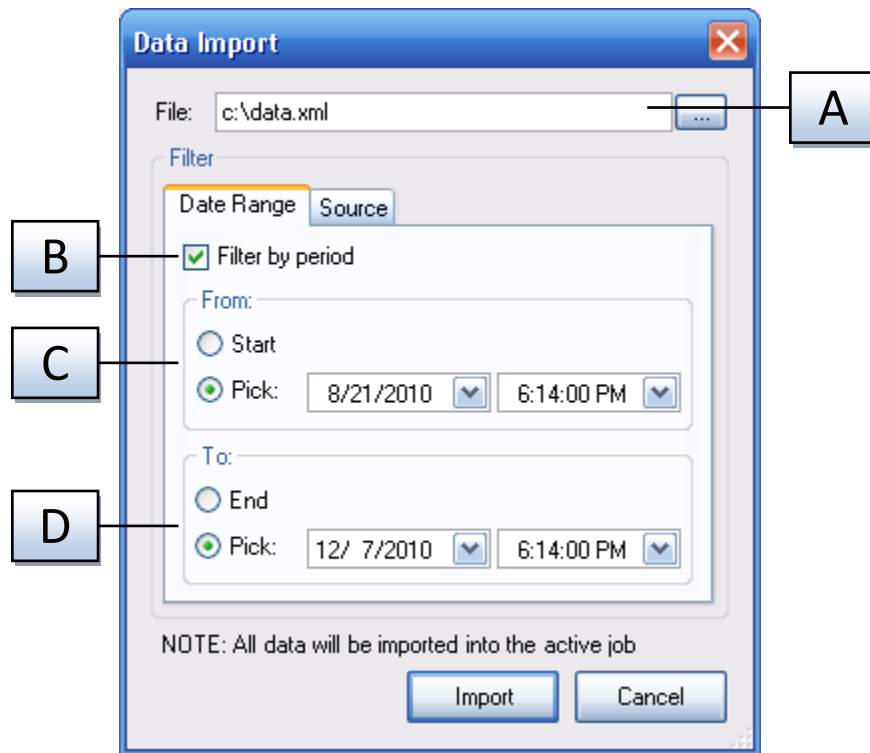
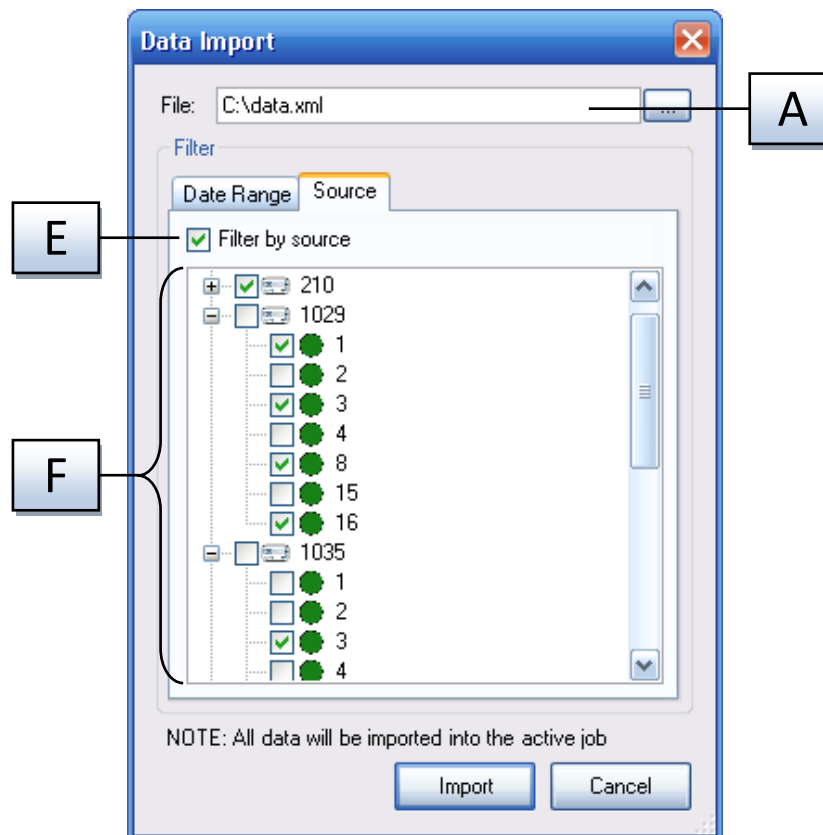

Figure 10-8 - Data import dialog (date range)
Figure 10-9 - Data import dialog (source filter)
2. Fill in the parameters for the data import using the *Data Import* dialog (see FIGURE 10-8, FIGURE 10-9 and TABLE 10-3 for reference).